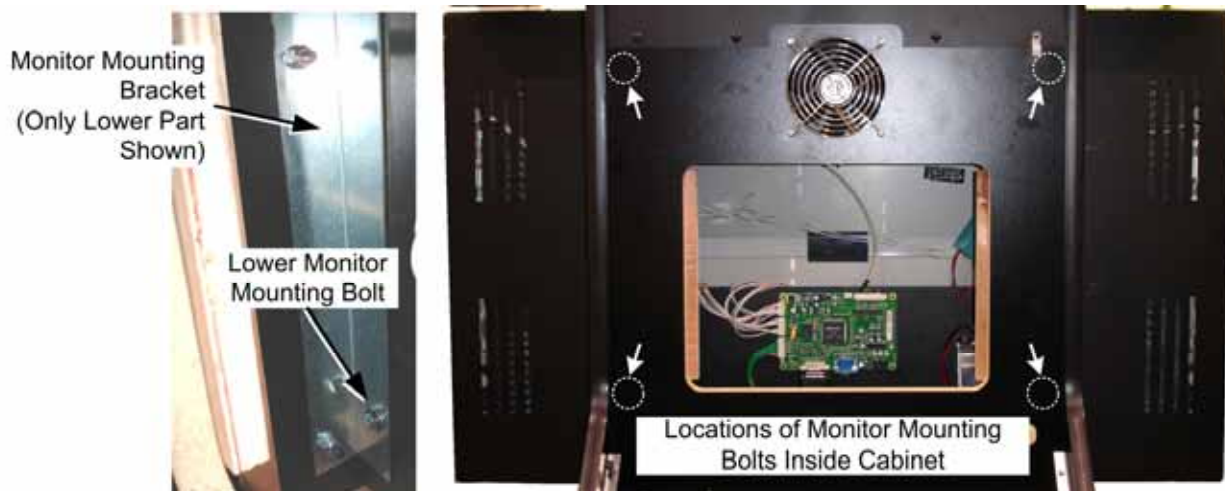

Figure 28. Monitor Mounting Bolts (42" Cabinet)
6. Remove the two (2) Phillips screws that secure the DC power supply in place so you can move it out of the way to reach the monitor mounting bolts.
7. Remove the four (4) bolts that secure the monitor backbox to the mounting brackets inside the cabinet. Figure 28 shows the locations of the bolts inside the cabinet